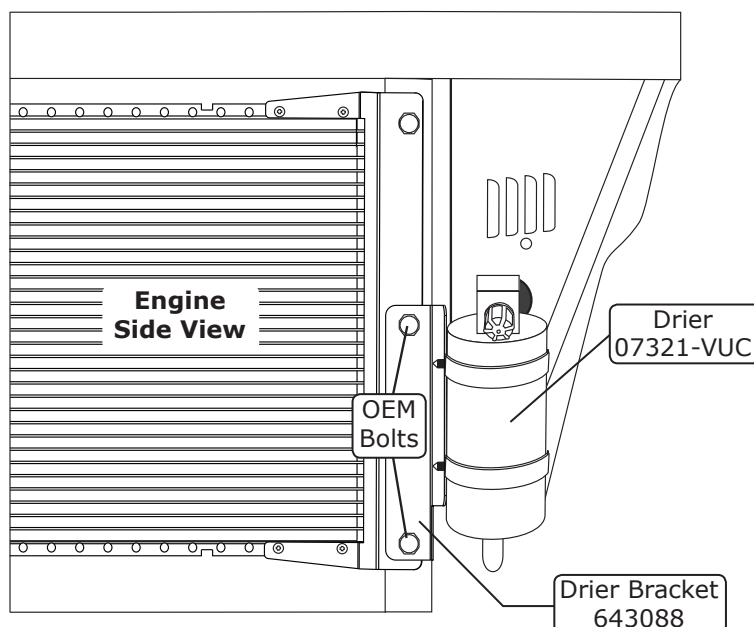

Figure 9
1. Install the drier/bracket assembly onto the condenser bracket using OEM bolts through the drier bracket and condenser, and into the core support as shown in Figure 9, below. **NOTE: Do not tighten the bolts. Leave the bolts loose until the #6 hardline coming through the core support is aligned with the drier port.**